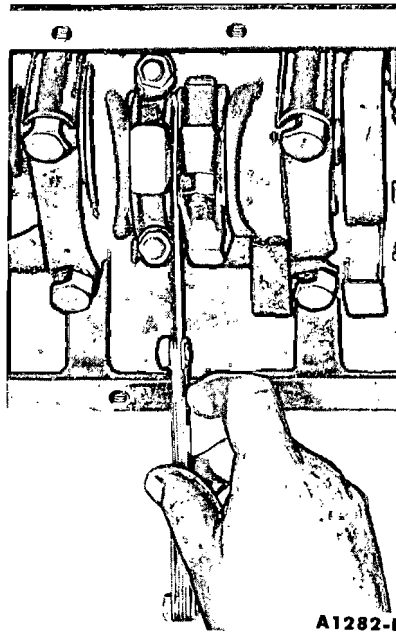

FIG. 60—Connecting Rod Side Clearance
9. After the piston and connecting rod assemblies have been installed, check the side clearance between the connecting rods on each crankshaft journal (Fig. 60).